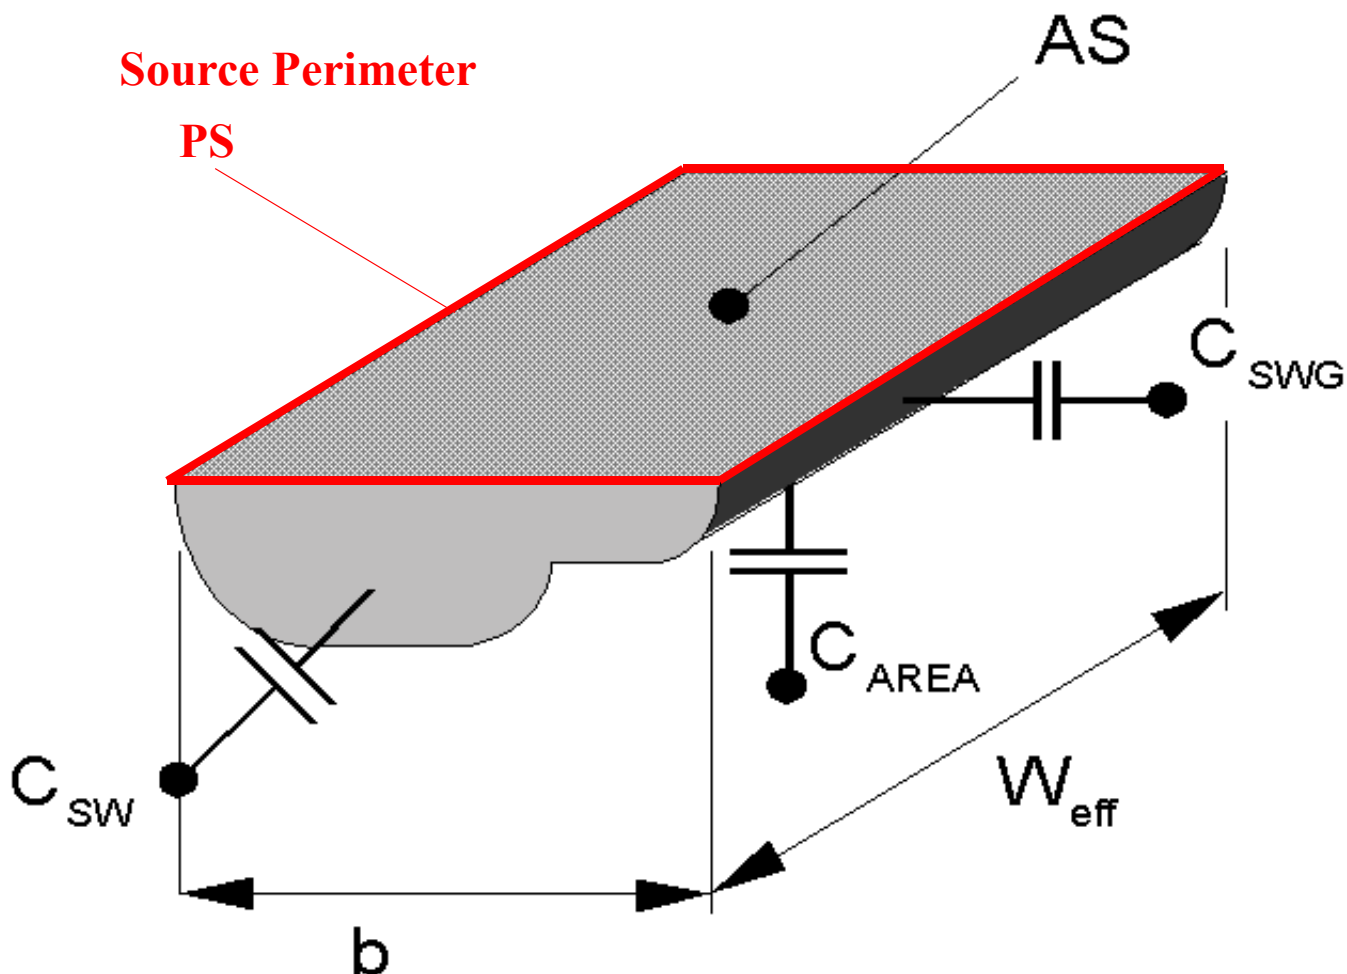

Figure 1-29. Device geometries
For each line, you can change the predefined name for the DUT and enter necessary geometrical data. For your convenience, only relevant data is to be entered for a specific group of capacities. Relevant data fields are shown with white background and can be edited, grey shaded data fields are not editable. For example, DUTs to measure bulk-drain junction capacitances do not require gate length and width (L, W), source area (AS) and perimeter length of source (PS) geometrical data. You only have to enter drain area (AD) and drain perimeter (PD) as well as the number of device fingers (NF) of the transistor to be measured. See Figure 1-29 for some details on capacitances and geometries.
You can enter a module name and a comment for each DUT. If you are using a switch matrix, you must enter the pin numbers of the switch matrix pin connections to the transistor. Only relevant connections are to be entered, in case of the bulk-drain diode, no source connection must be entered (the appropriate field is grey shaded). See Figure 1-29 for details on device geometries and Table 1-2 for requirements on a proper extraction of diode data.